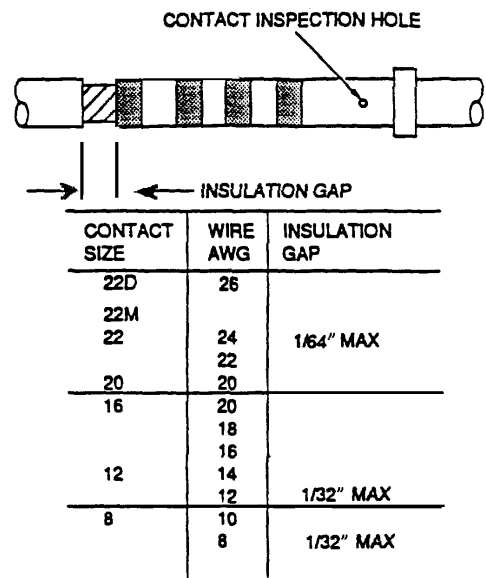

Figure 2. Insulation Gap
d. Insert stripped wire into contact conductor barrel. Ensure all wire strands are inside contact conductor barrel and the conductor is completely visible in contact inspection hole (Figure 2).